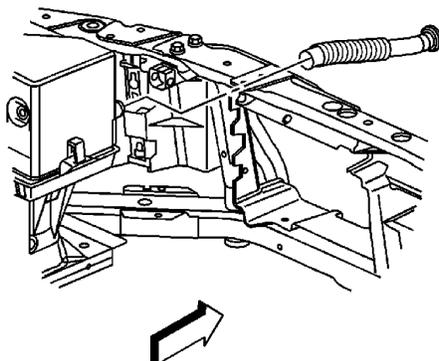

Fig. 3 Battery air duct
10. Remove battery air duct from battery cover, **Fig. 3**.
6. Install battery air duct from battery cover, **Fig. 3**.